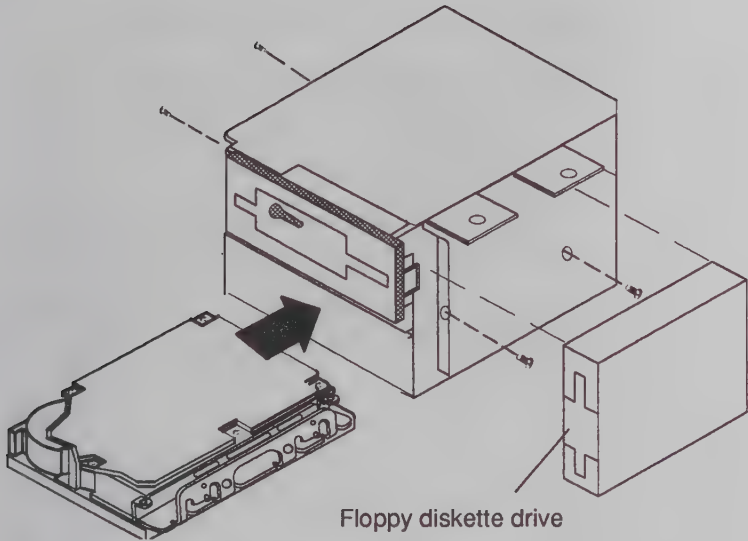

Figure 4 Attaching the Bracketed Drive to the Drive Compartment
3. Align the holes on the side of the drive compartment with the holes in the mounting brackets. See Figure 4.